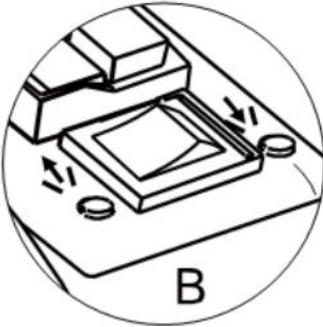

Fig.14
1. Press the down arrow of reversing switch. (Fig.14)